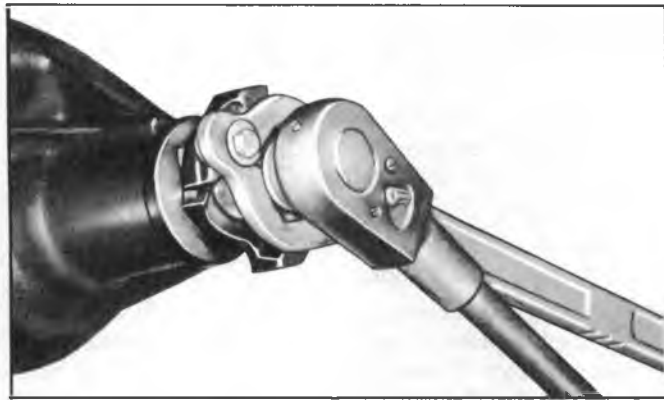

Fig. 5B-Drive Pinion Nut Removal
3. Install Tool J-8614-1 on pinion flange and remove pinion flange nut and washer. See Figure 5B. (Position J-8614-1 on flange so that the four notches are toward flange.) Discard nut and use a new one upon reassembly.